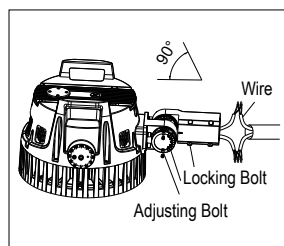

Figure 14
- Loosen the four locking bolts on the slip fitter, connect the wire correctly, and place the wire into the pole. Then, fasten the locking bolts between the slip fitter and the pole (Figure 14).
**Note:** The adjustable angle is 0-90° (Figure 14).